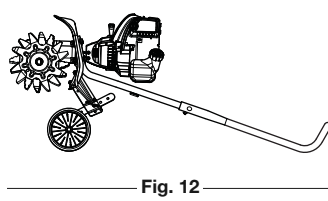

Fig. 12
2. **Set the unit on a flat, level surface.** Position the unit so that the engine is horizontal (Fig. 12).